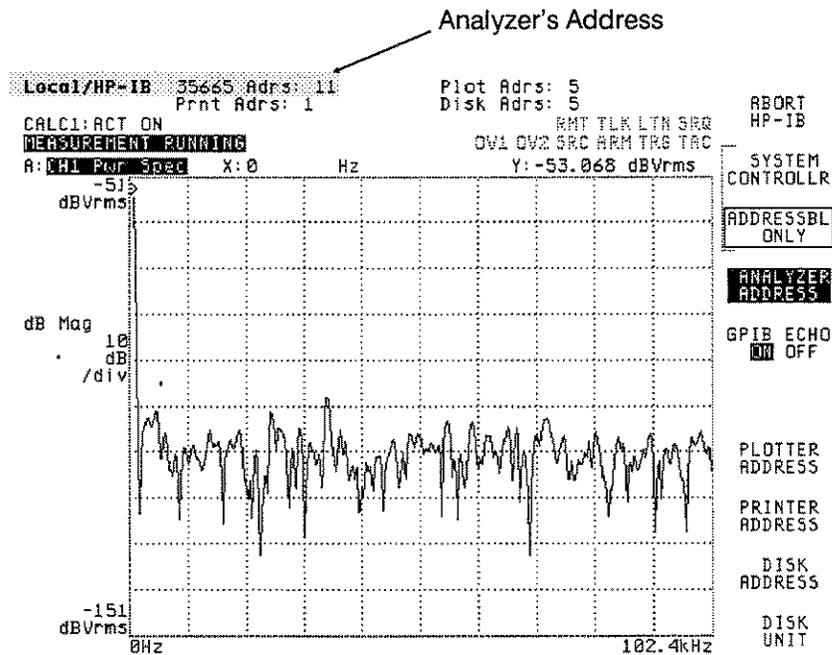

Figure 1-3. HP 35665A Screen After Pressing Local/HP-IB
4. Verify that the analyzer's address is set to 11. The current address setting is displayed when you press the [**ANALYZER ADDRESS**] softkey (see figure 1-3). You can change the address by pressing [**ANALYZER ADDRESS**], then using the numeric keypad and the [**ENTER**] softkey to enter a new value. However, the instructions in the verification procedure assume that the analyzer address is set to 11.